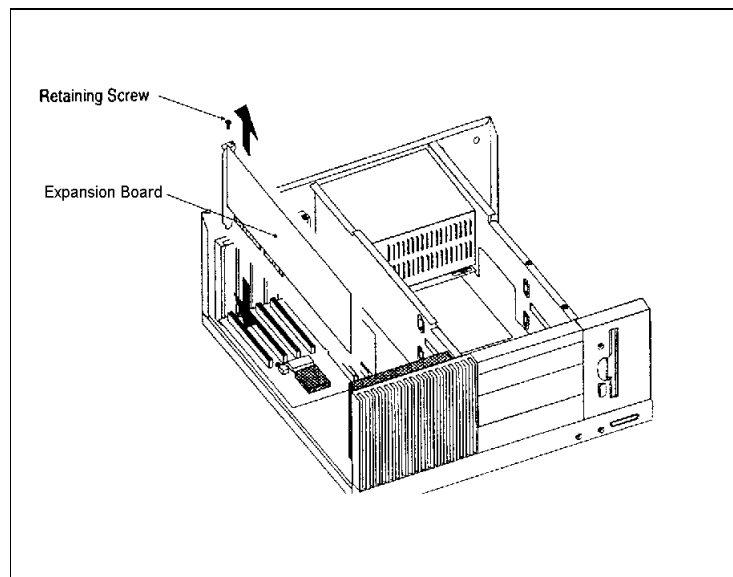

Figure 7-10. Expansion Board Removal
5. Remove the expansion board retaining screw (Figure 7-10).